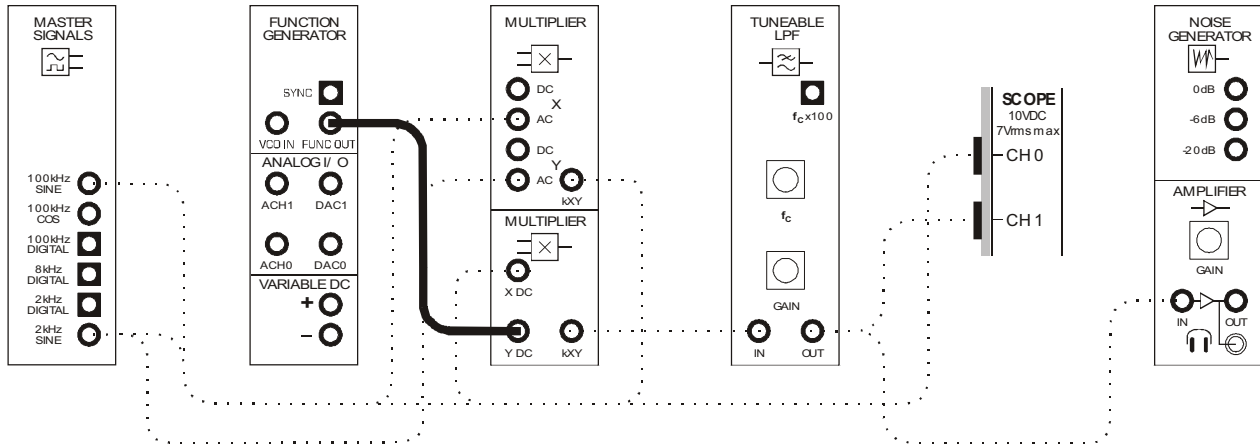

Figure 12
46. Disconnect the leads to the Phase Shifter module and modify the set-up as shown in Figure 12 below.